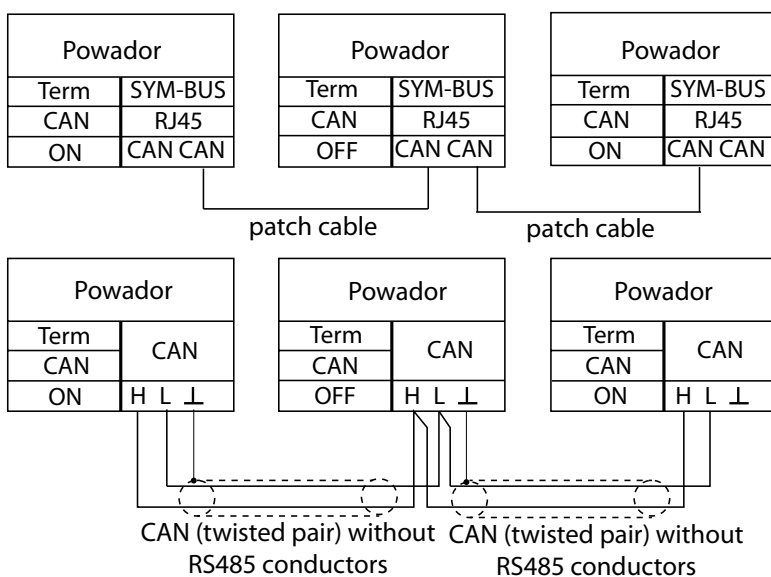

Figure 21: SYM bus wiring diagram in group of three
When a patch cable with an RJ45 plug is used, an RS485 connection, which is required for a proLOG connection, is established at the same time (Figure 21 on page 30).
- GND with GND (see Figure 21 on page 30)